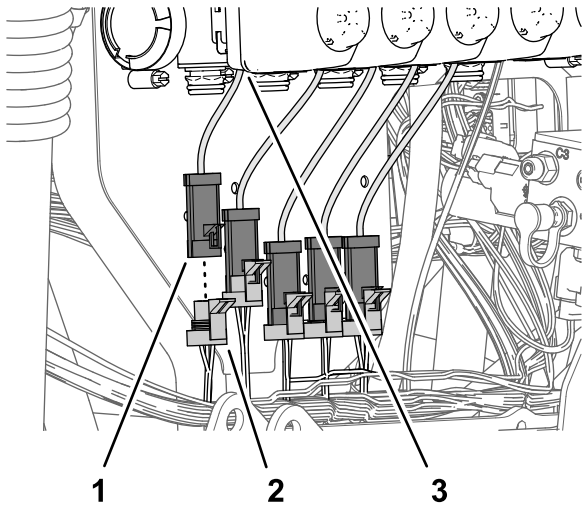

Figure 116
2. Connect 3-socket connector (Figure 116) of the 89 cm (35 inch) kit sprayer-harness branch labeled NOZZLE VALVE 1) into the 3-pin connector of the left most valve actuator (position 1).
3. Connect 3-socket connector (Figure 116) of the 89 cm (35 inch) kit sprayer-harness branch NOZZLE VALVE 2 into the 3-pin connector of the valve actuator (position 2).
4. Connect the remaining 3-socket connectors of the 89 cm (35 inch) kit sprayer-harness branch into the 3-pin connector of the valve actuators (Figure 116).